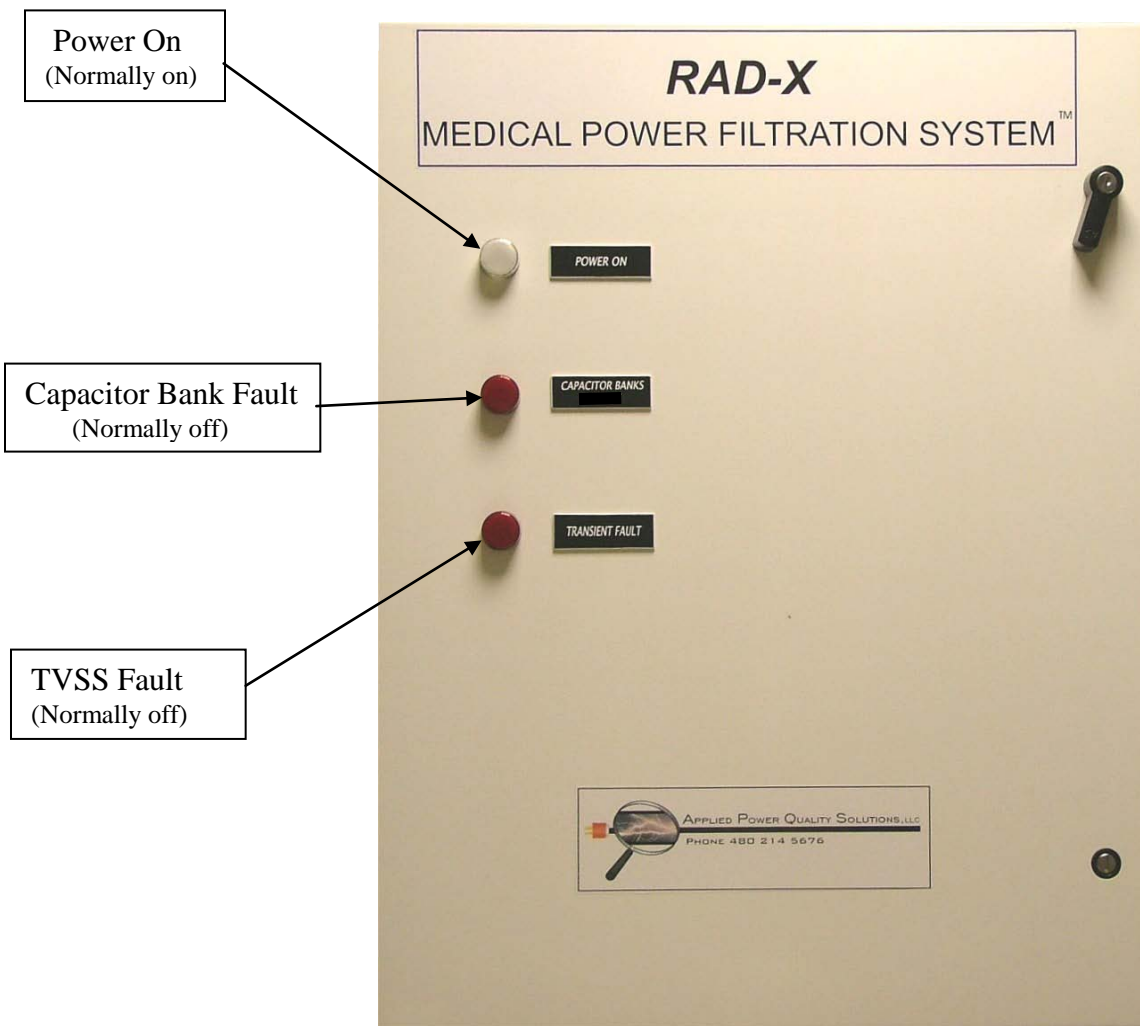

Figure 5
- b. The power-on indicator light (**Figure 5**) on the Rad-X Filter will extinguish.
3. The front door power on indicator should be extinguished (**Figure 5**).